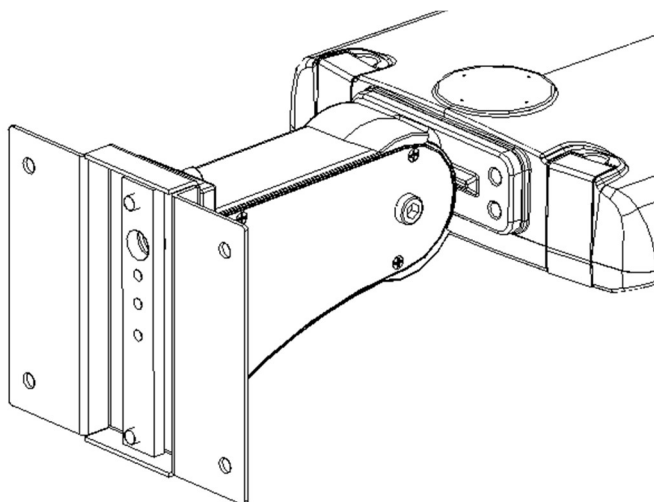

Figure 3
3. Tighten (2x) 30mm M8 hex socket screws to at least 20 Nm each or route wires. (Figure 3)